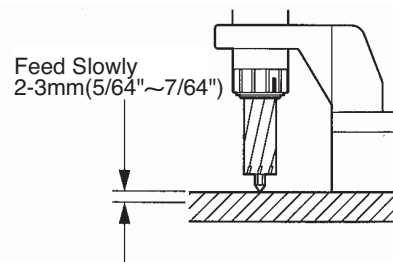

Fig. 25
**For the first 2 to 3mm (5/64" - 7/64") of the drilling, operate the drill gradually and only apply a light force to the Rod Handle. (Fig.25)**